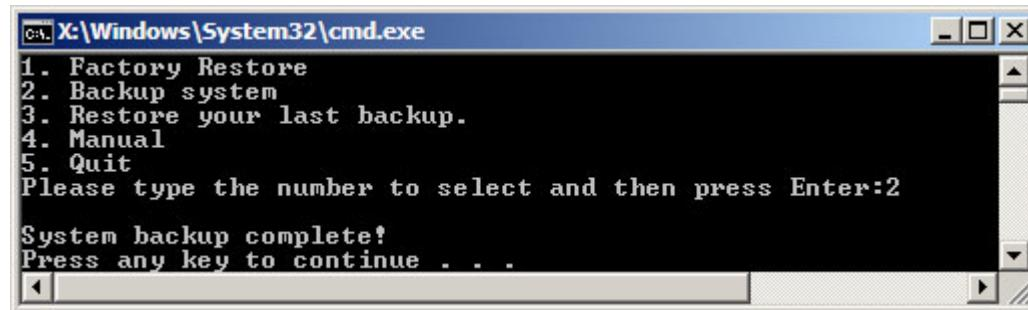

Figure B-39: System Backup Complete Window
Step 3: The screen is shown in **Figure B-39** appears when system backup is complete.